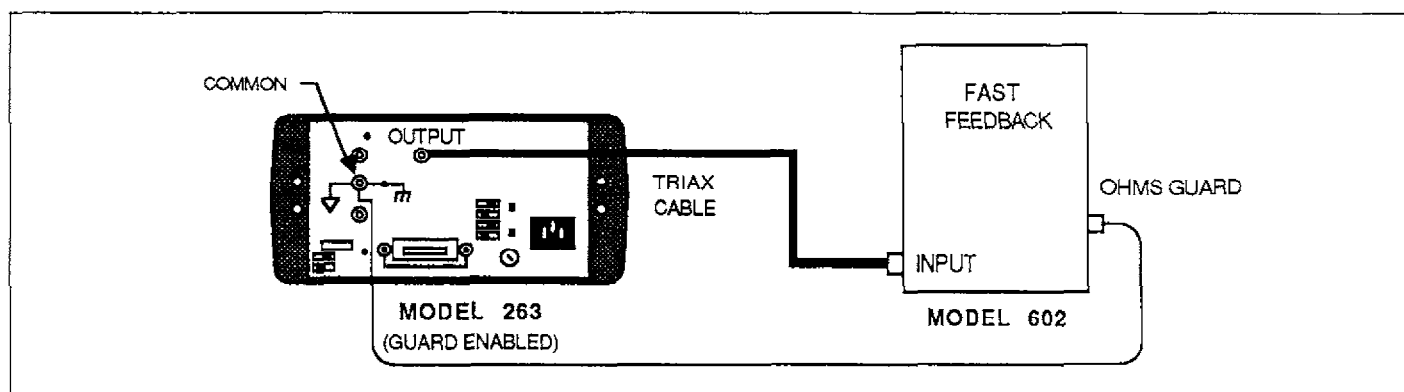

Figure 5-13. Model 602 Ohms Accuracy Checks ($\geq 1G\Omega$)
3. Resistance Accuracy Checks — The procedures in this paragraph use precision resistors to check accuracy. Instead, use the Model 263 to source the appropriate resistance. When sourcing 100M Ω or more to the Model 602, it is recommended that guarding be used. For guarded ohms, enable guard on the Model 263, place the feedback switch of the Model 602 in the FAST position, and connect the instruments as shown in Figure 5-13.